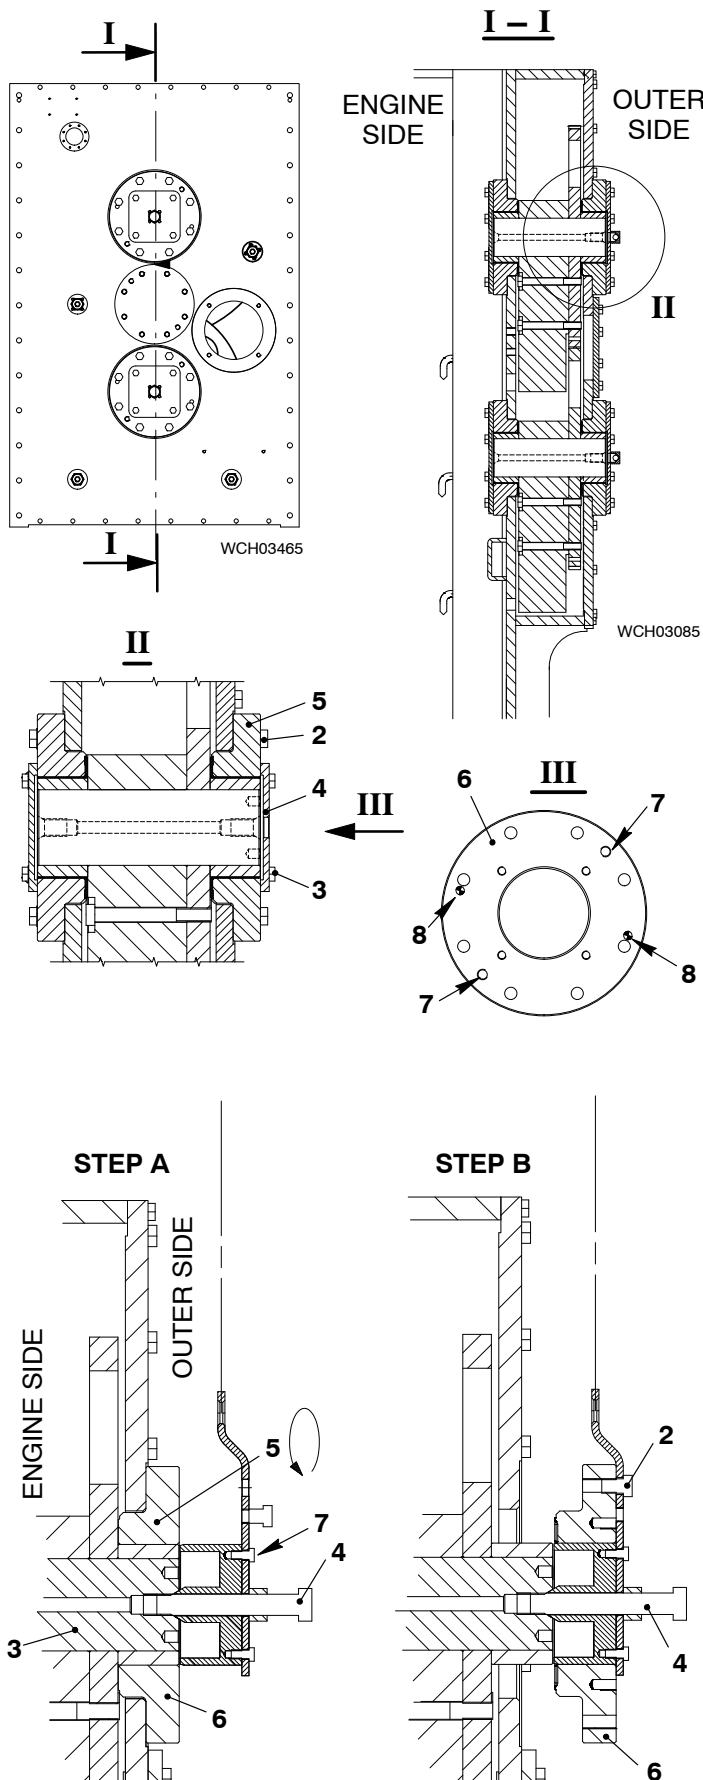

Fig. 8
- 1) Remove the four screws (3, Fig. 8) from the bearing cover (4) at the outer side.
- 2) Remove the bearing cover (4).
- 3) Remove the eight screws (2) from the bearing (5).
- 4) Attach the lifting tool 94704 to the crane and move it in front of the bearing (6) (STEP A).
- 5) Turn the screw (4) into the pin (3) and tighten slightly.
- 6) Tighten the nut (5) to push the lifting tool 94704 against the pin (3).
- 7) Put two M20 x 140 mm screws into the two threads (7, view III) in bearing (6).
- 8) Tighten equally the two M20 screws to push out the bearing (6).
- The bearing (6) will move on to the lifting tool 94704 (STEP 2).
- 9) Tighten screw (2) to hold the bearing (6).
- 10) Operate the crane to hold the weight of the bearing (6).